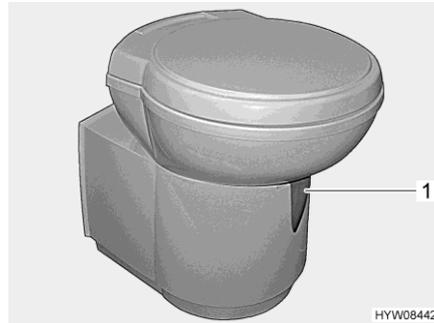

Fig. 161 Thetford toilet bowl (swivelling)
- Before flushing open the sliding trap of the Thetford toilet. To do this, push the slide lever (Fig. 161,1) in an anticlockwise direction.